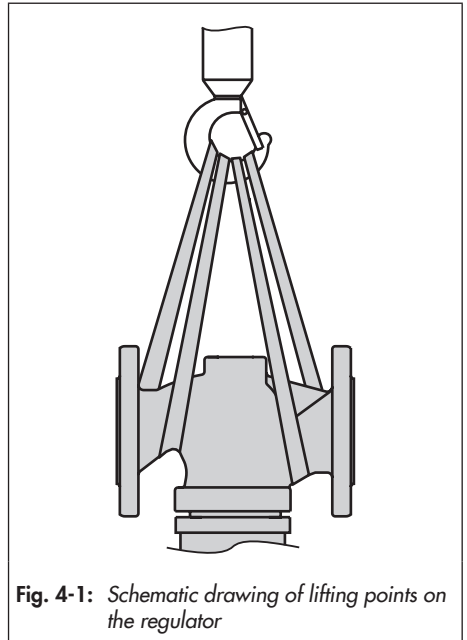

Fig. 4-1: Schematic drawing of lifting points on the regulator
- Use a hook with safety latch to secure the slings from slipping during lifting and transporting (see Fig. 4-1).
1. Attach one sling to the flange of the body and to the rigging equipment (e.g. hook) of the crane or forklift (see Fig. 4-1).